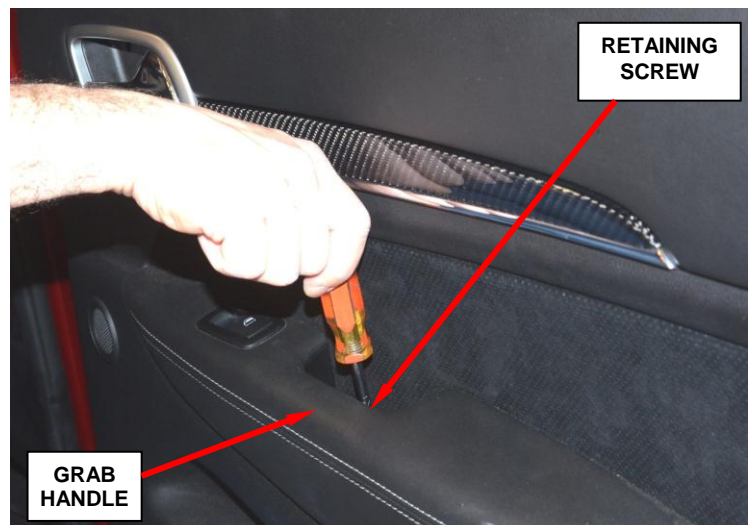

Figure 19 – Grab Handle Retaining Screw
3. Open the grab handle screw access cover. Remove and save the grab handle retaining screw (Figure 19).